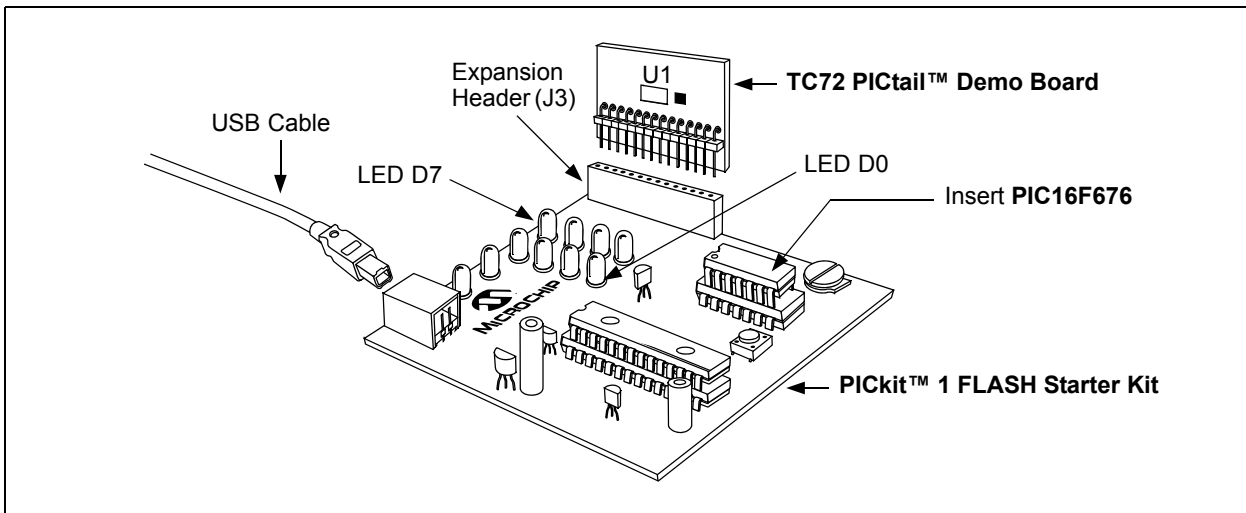
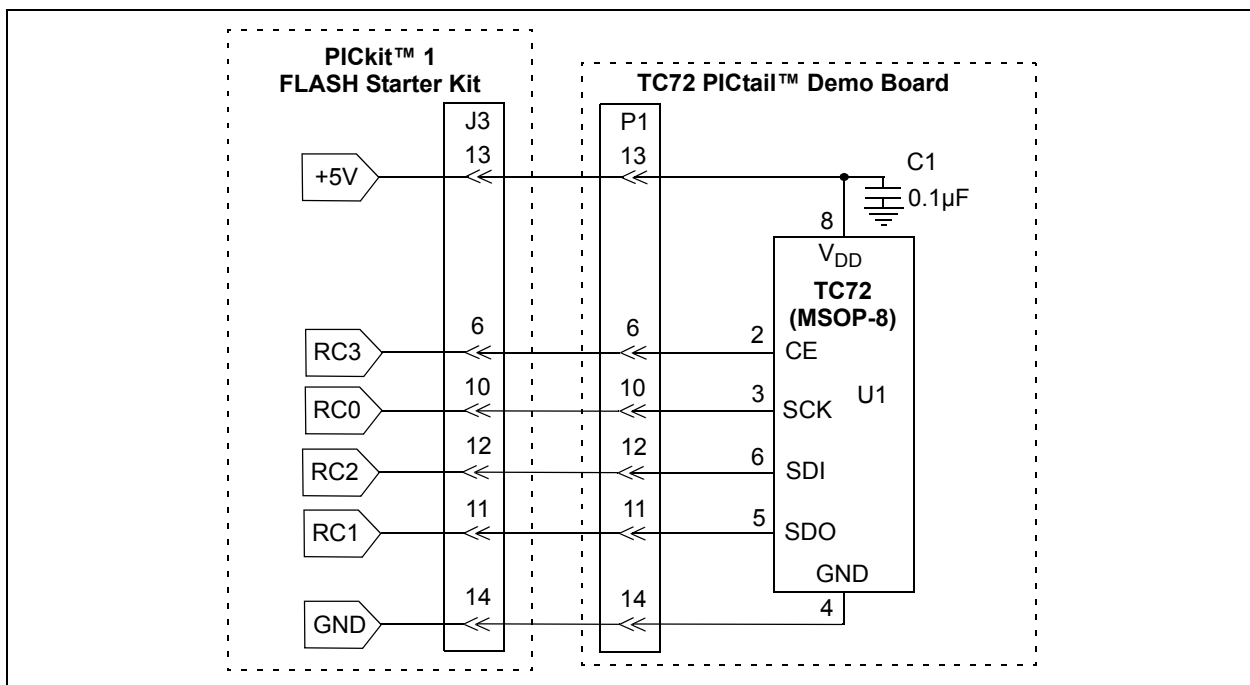

FIGURE 2-2: TC72 Digital Temperature Sensor PICtail™ Demo Board and PICkit™ 1 FLASH Starter Kit.
FIGURE 2-3: Simplified TC72 Digital Temperature Sensor PICtail™ Demo Board Schematic.
1. Connect the P1 header of the TC72 Digital Temperature Sensor PICtail™ Demo Board to the J3 connector on the PICkit 1 Flash Starter Kit board. Refer to Figure 2-2 for proper orientation of the TC72 Digital Temperature Sensor PICtail™ Demo Board and Figure 2-3 for the simplified board schematic.